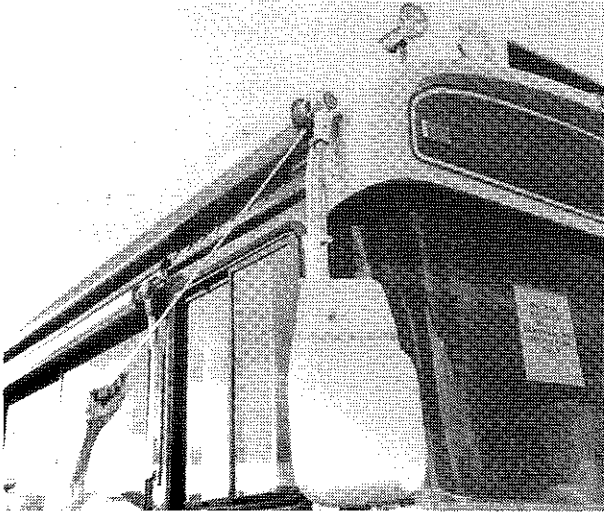

Figure 11-1.
1. Pull down on **Z** lock lever, as shown in **figure 11-1**, to permit awning to be unrolled.